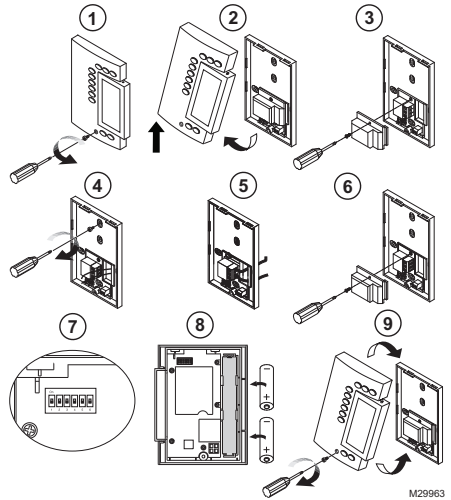

Fig. 1. Installation steps.
1. Loosen the captive screw securing the front module to the rear module as shown in Fig. 1.